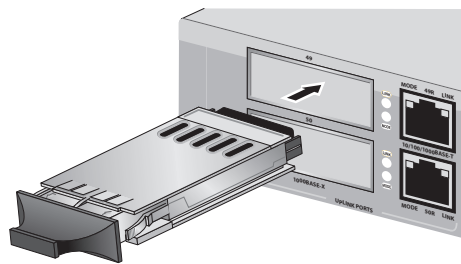

Figure 18. Installing a GBIC Module
4. Slide the GBIC module, with the label side up, into an expansion slot on the switch, as shown in Figure 18.